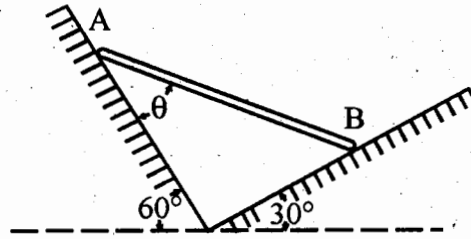

Fig. 5
- (c) A uniform bar AB of length L and weight W lies in a vertical plane with its ends resting on two smooth inclined planes OA and OB and find angle θ for the equilibrium of bar as shown in Fig. 5.